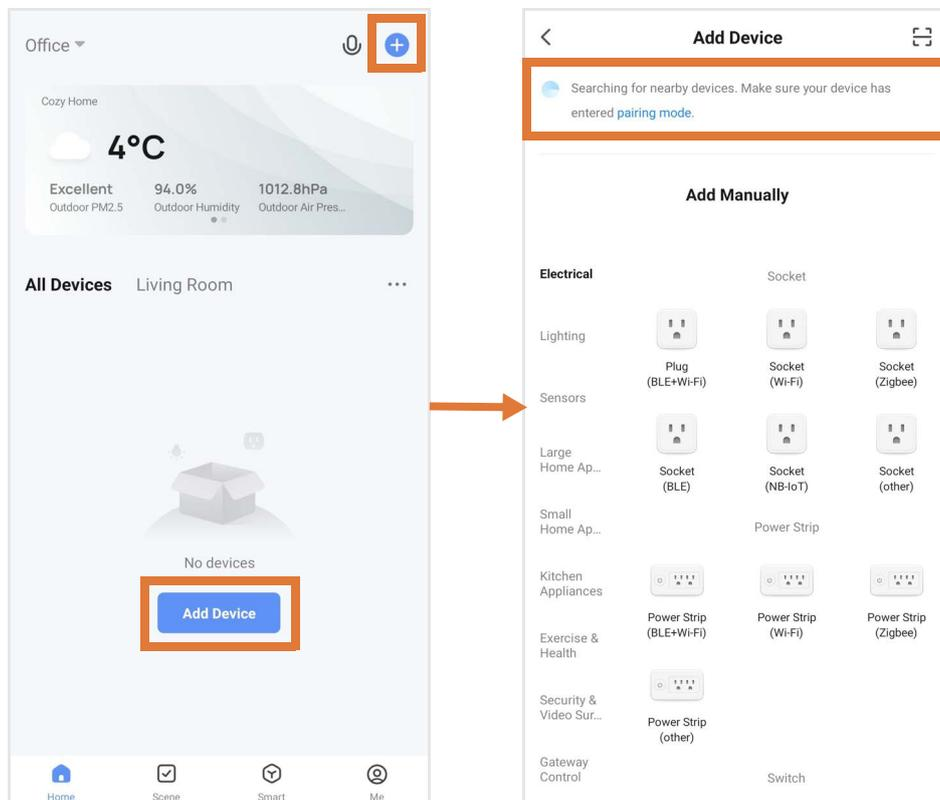

Figure 14 | Adding device on Smart Life app
3. The app should start scanning, as shown by the icon at the top of the screen (see **Figure 14**). If this icon and text does not show, press  $\text{Ⓢ}$  in the top right corner.